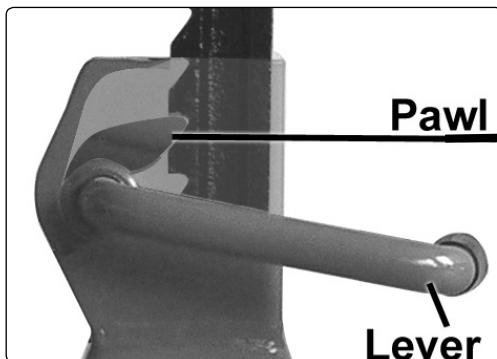
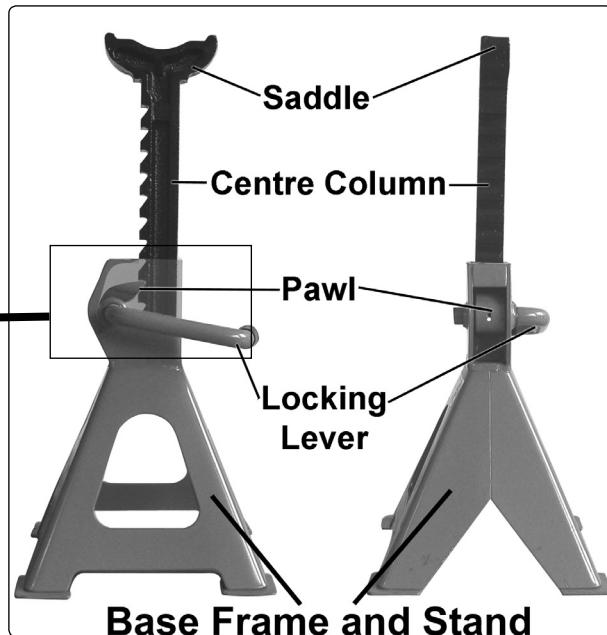

Fig.2
Fig.1
- 4.1. Insert the centre column into the base frame and stand (fig.1).
- 4.2. Ensure the toothed side of column will engage with the locking lever mechanism (fig.2).
- 5.4. Hold the control lever up while lifting the centre column to required height. Push the control lever down to lock the pawl into the central column teeth (fig.1 and fig.2).